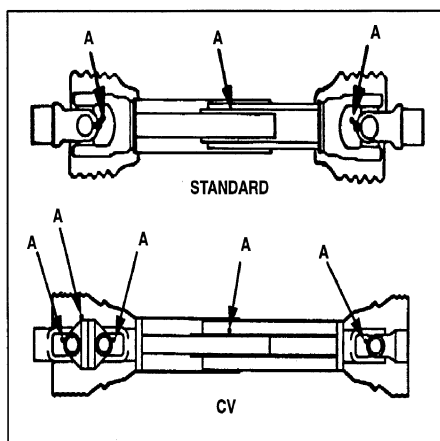
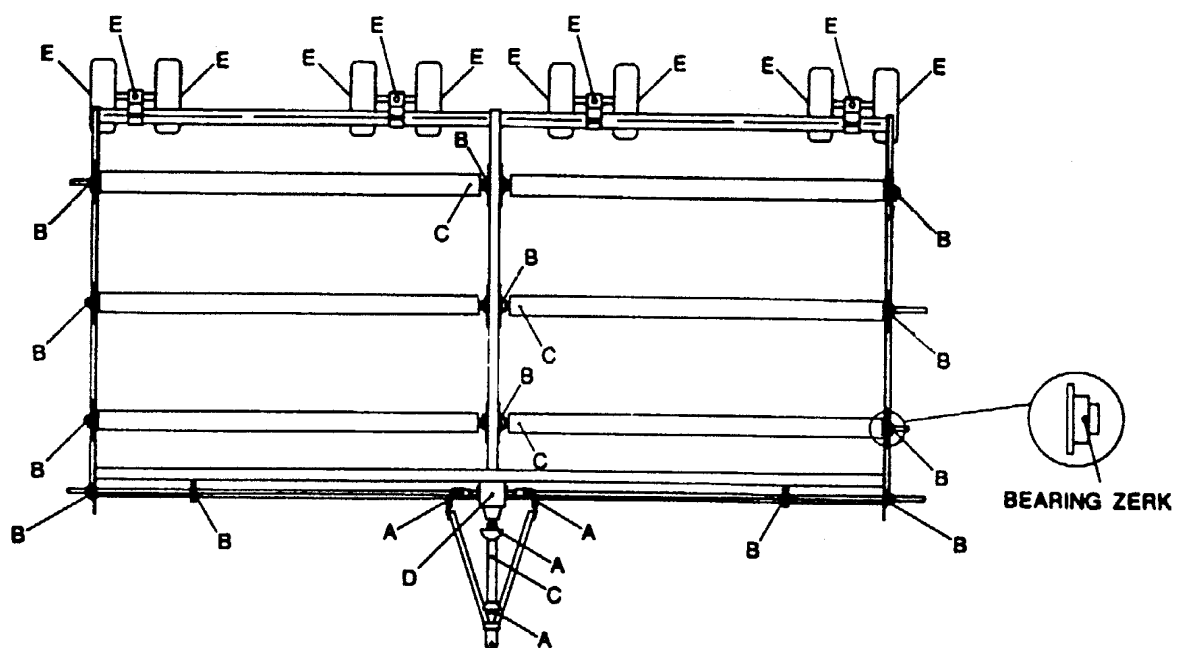

Figure 26 Driveline
Figure 28 Lubrication Diagram
The period recommended is based on normal operating conditions. Severe or unusual conditions may require more frequent lubrication or oil changes. Refer to Figure 28 for details.
1. Lubricate PTO driveline, position A, Figure 26 and Figure 28
See Figure 28 for positions identification.